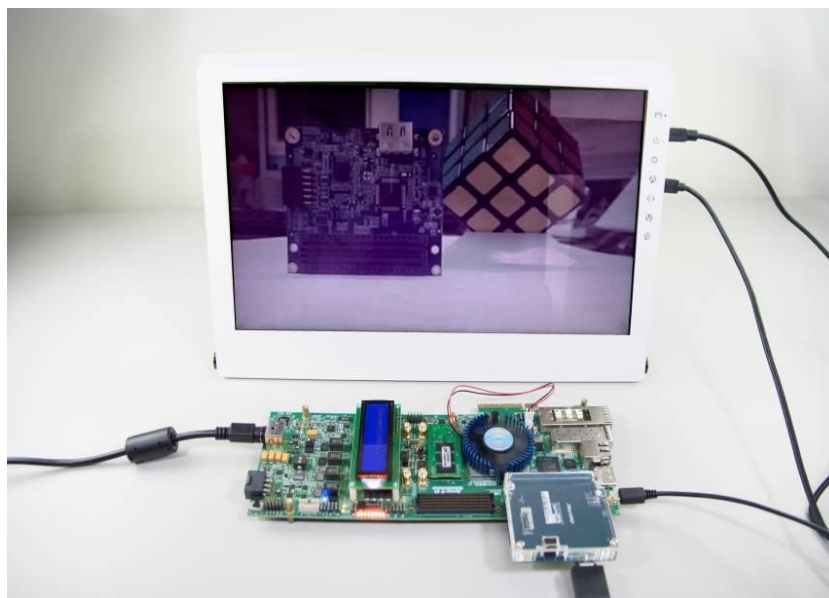

Figure 4-9 A10GFP demo hardware setting up
As shown in Figure 4-9
- Plug D8M-FMC onto A10GFP (FMC Port A), connect HDMI monitor to HDMI port of D8M-FMC see Figure 4-9.